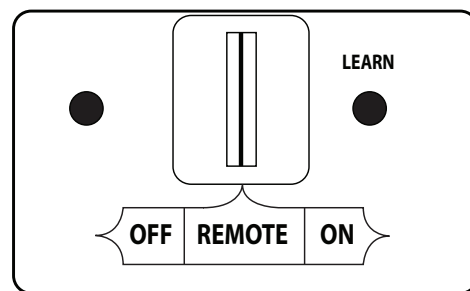

Fig. 11-1 Remote receiver detail (REMOTE)
1. Locate the 3-position switch on the remote receiver (see Fig. 11-1), and slide the switch to the **REMOTE** position.